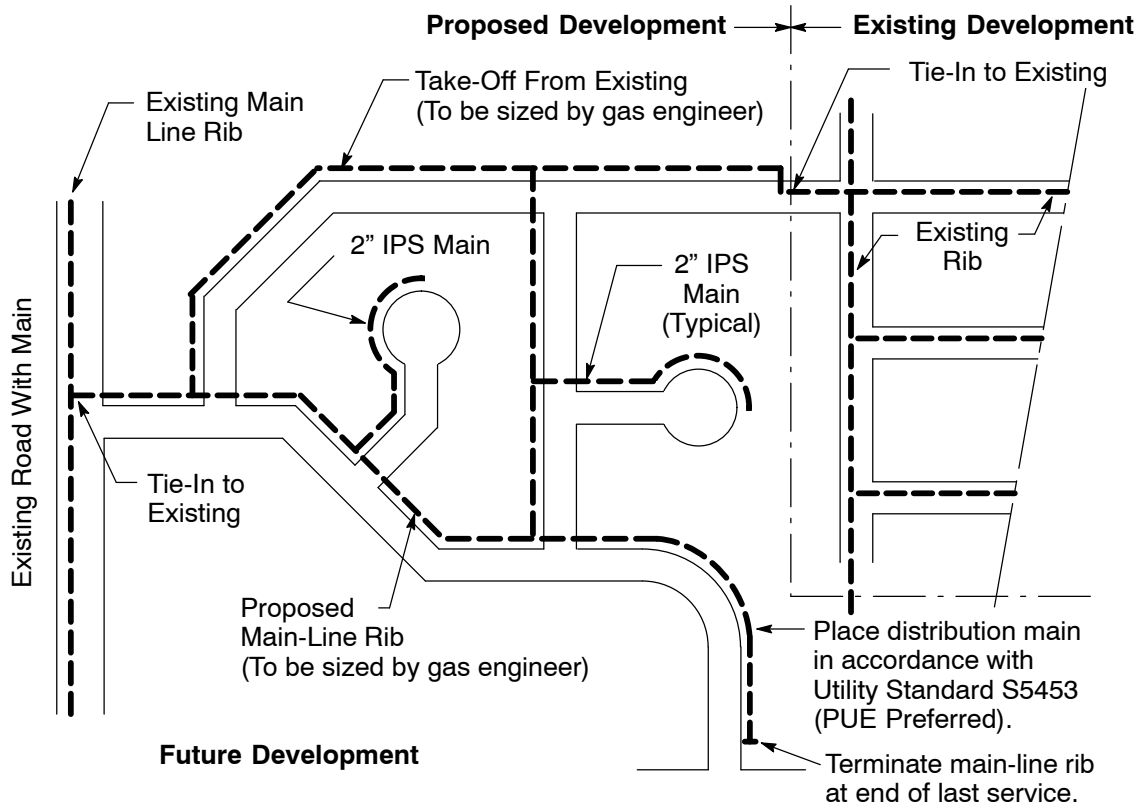
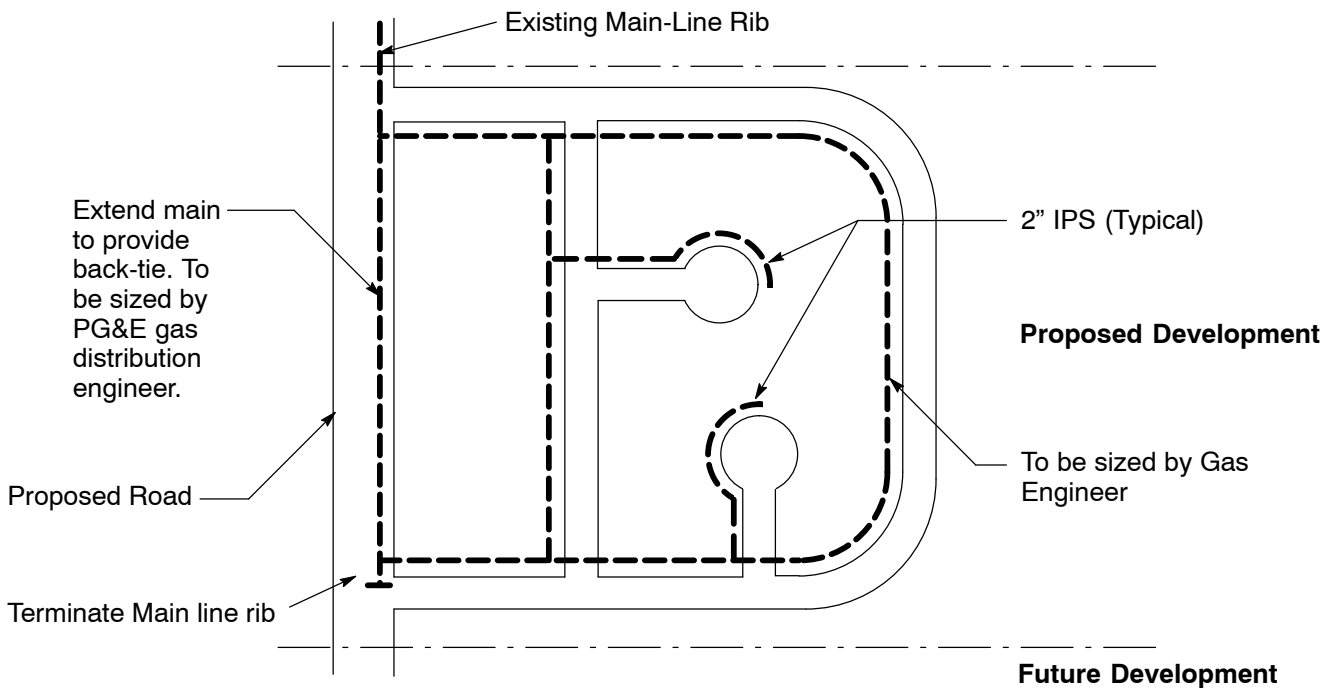

Figure 1
Figure 2
Figure 1 shows a "Typical Subdivision Design - Infill" and Figure 2 shows a "Typical Subdivision Design - End of System Growth"
e. A subdivision design for end of system growth is shown in Figure 2. Extend the distribution main along the proposed road to provide a back-tie to the proposed development.